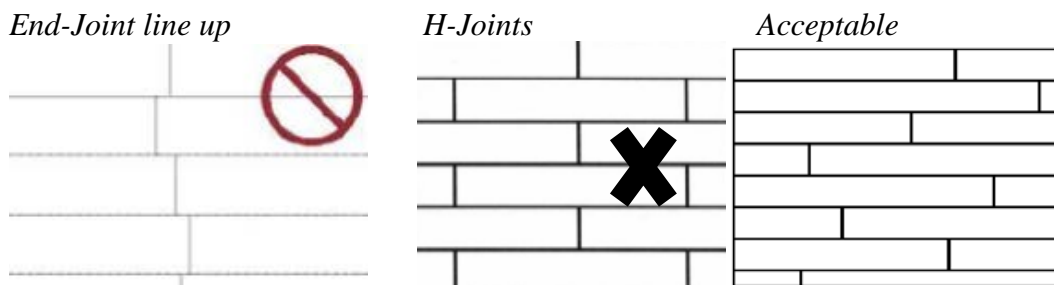

Figure A-1
6. Racking rule of thumb: Stagger end joints in adjacent rows at least twice the width of the boards, as product allows. **Do not use stair step spacing. Avoid End-Joint line up & H joints.** See figure A-1.